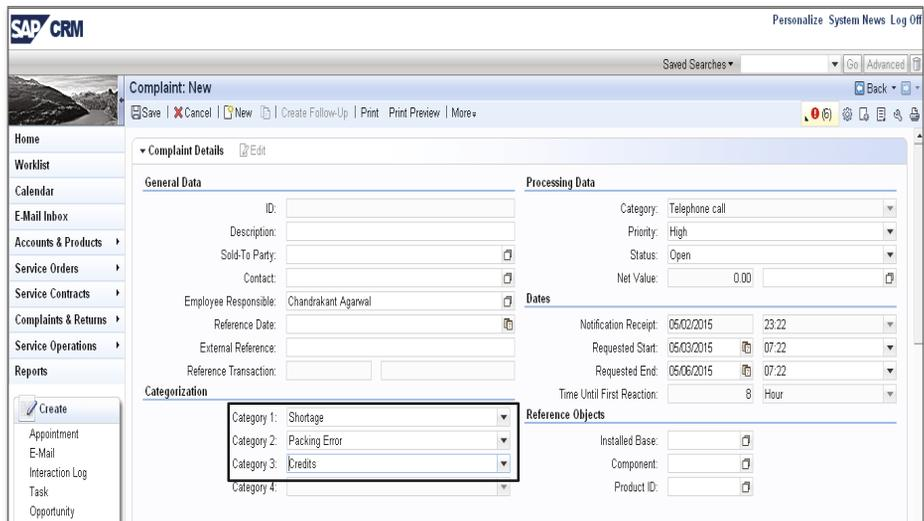

Figure 4.119 Categorization Data with Different Levels
- After you've configured the categorization schema, create the complaints document for the customer. When a customer calls to request a credit for the shortage scenario, the customer service representative creates a complaint and adds the CATEGORY 1 as SHORTAGE, CATEGORY 2 as PACKING ERROR, and CATEGORY 3 as CREDIT, which is the outcome of this issue. Save the document, and trigger the follow-up action to give the credit to the customer (see Figure 4.119).